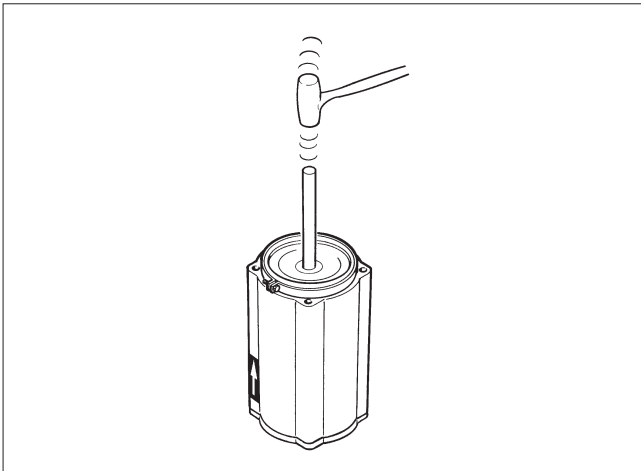

Fig. 19 Placing the piston in the cylinder
- Hammer or press the piston into the cylinder through the tie ring. Note the indicator arrow direction. See Fig. 19.
- Install new cylinder base O-rings (19). Sizes 6, 8 and 10: ensure that the protection bushing (12A) is in place. Replace cylinder with piston.
- Apply sealant, e.g. Loctite 225, to the bearing unit screw (29) thread and tighten the screw as in Table 2 before mounting onto cylinder base.